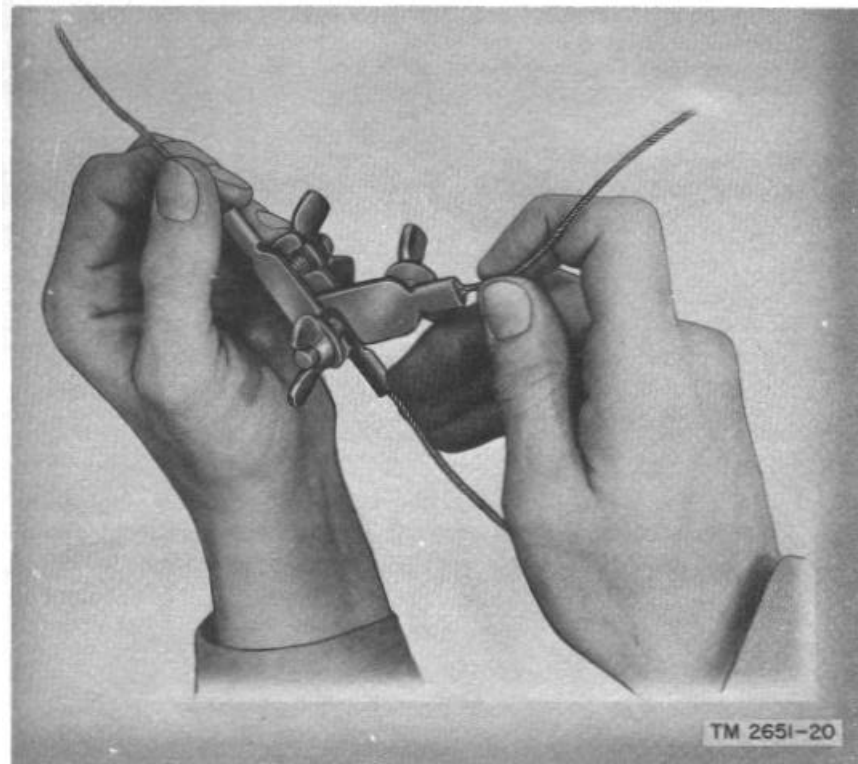

Figure 21. Connecting the antenna wire from three reel assemblies.
- (b) Fasten the wire terminations of three antenna reels together (fig. 21). Two of the wires serve as the antenna, and the third serves as the feeder.
- (c) Unwind and measure one wire to obtain the length to the 500-ohm point ((1) above). This is the shorter side of the antenna.